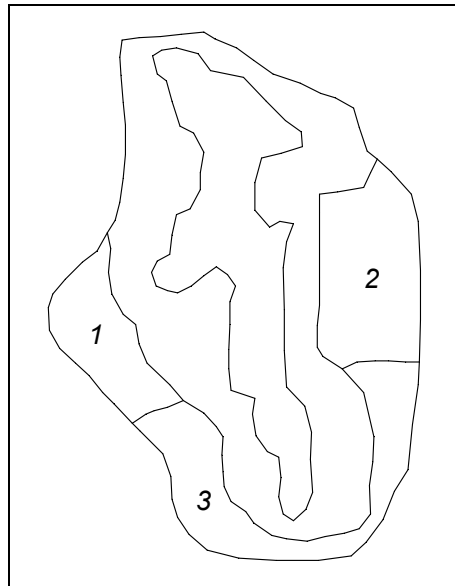

Figure 8-4 Polygons to be Selected.
2. While holding the *Shift* key, select polygons 1 and 2 shown in Figure 8-4.
6. Double click on polygon 3 shown in Figure 8-4.